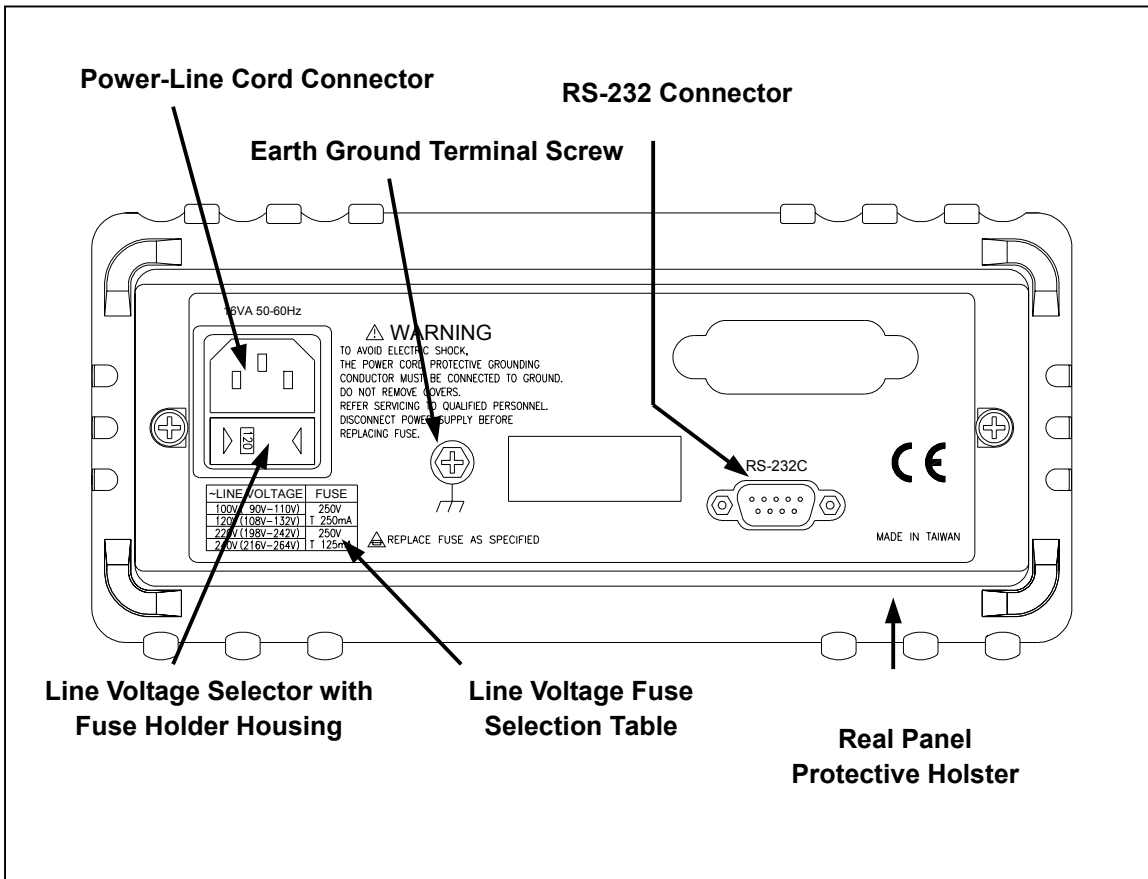

Figure 2-2. Rear Panel
The rear panel (shown in Figure 2-2) contains a line fuse, the power-line cord connector, an RS-232 interface connector.
- Figure 2-2 illustrates the location of the Line Voltage Selector with Fuse Holder housing. If user has already done so, plug the line cord into the connector on the rear of the meter. The meter will operate at any line voltage between 90Vac and 264Vac when “line voltage selector” is set properly, and its frequency range is at 50/60Hz. For operation safety, DO NOT APPLIES a line voltage that exceeds the range specified to line cord connector on the rear panel of the meter.